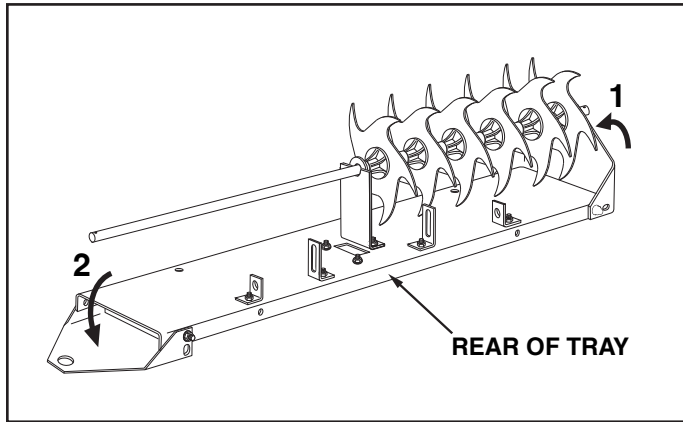

FIGURE 4 **REAR VIEW**
6. Pivot the end plate on your right side up onto the end of the axle. See figure 4.
7. Pivot the end plate on your left side down out of the way. See figure 4.